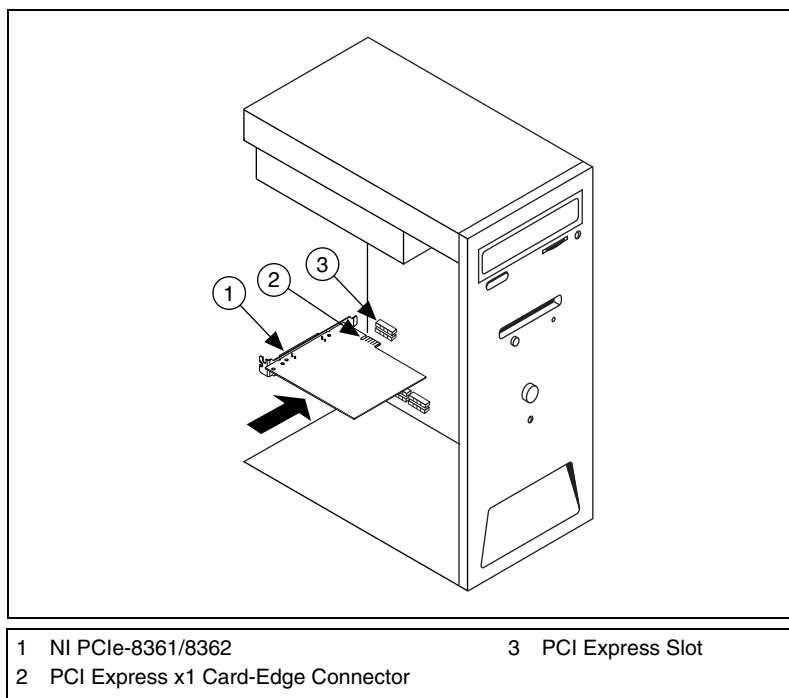

Figure 2-1. Installing the NI PCIe-8361/8362
7. Line up the NI PCIe-8361/8362 with the slot on the back panel. Slowly push down on the top of the NI PCIe-8361/8362 until its card-edge connector is resting on the expansion slot receptacle. Using slow, evenly distributed pressure, press the NI PCIe-8361/8362 straight down until it seats in the expansion slot, as shown in Figure 2-1.